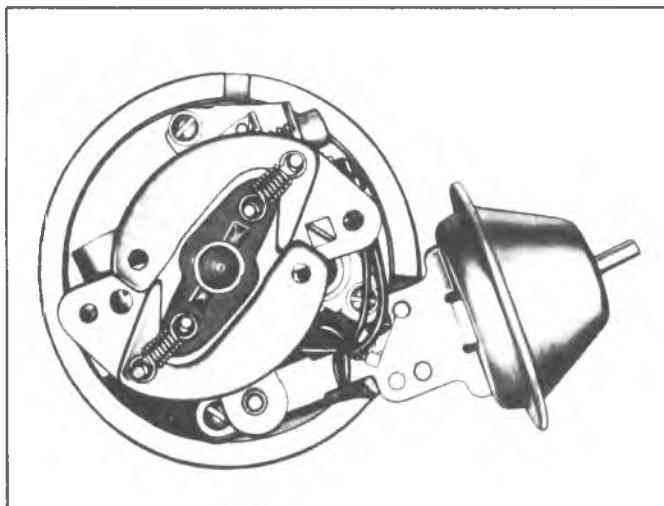

Fig. 22i—Advance Weights Installed
3. Lubricate and slide weight cam over mainshaft and install weights and spring (fig. 22i).